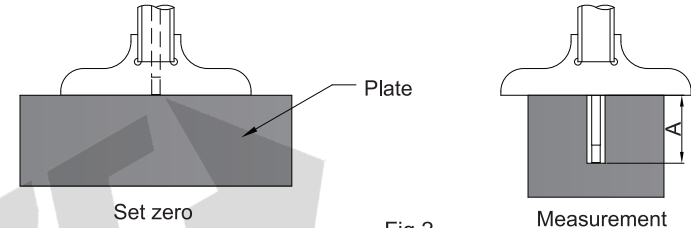

Fig.2
---Install flat point or spherical point: put base plane on plate, gently pull the beam to let point contact with the plate and press '0' button to set zero. Measure the depth A(Fig.2).